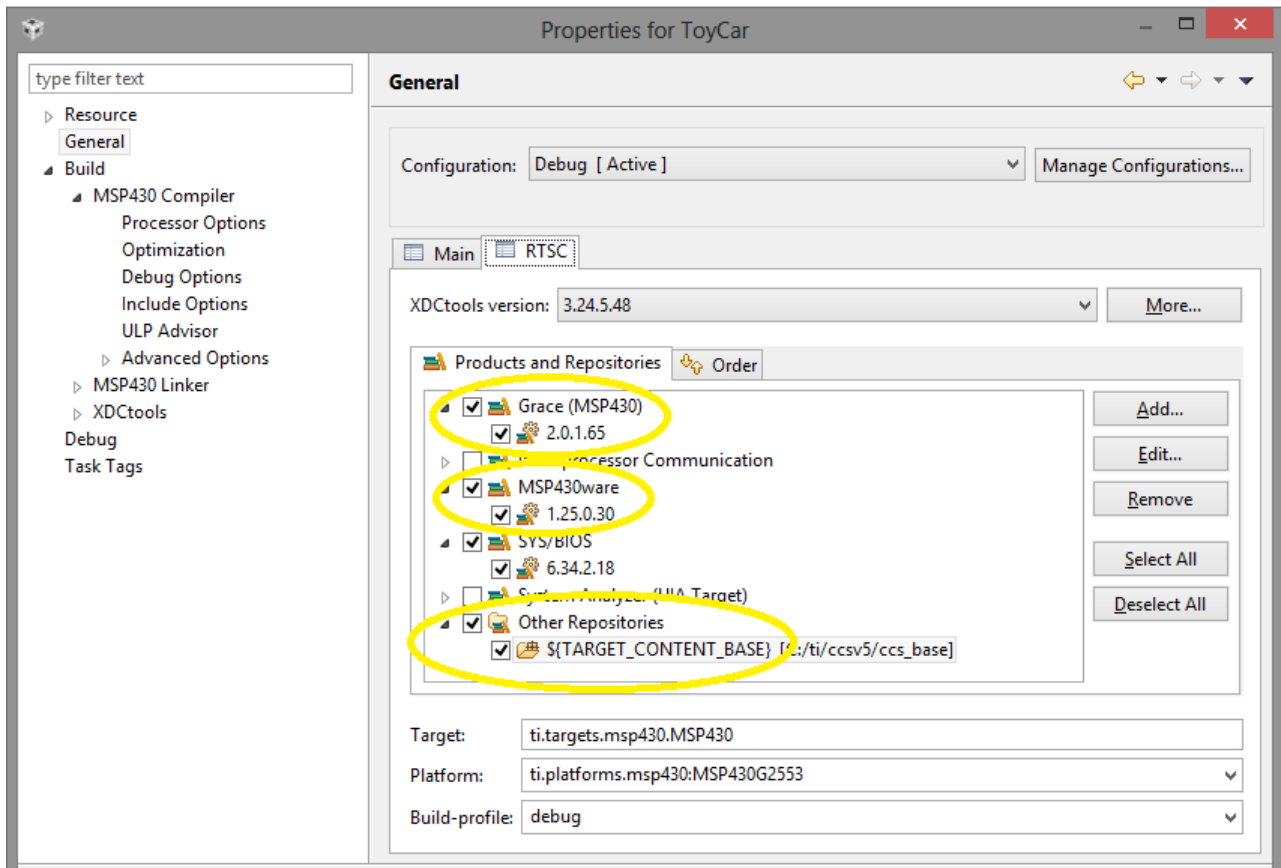

Figure 2 - Grace, repository and MSP430ware settings.
- In the RTSC tab ensure that 'Grace 2.0.1.65', 'MSP430ware 1.25.0.30' and 'Other Repositories \${TARGET\_CONTENT\_BASE}' are selected as shown in Figure 2.